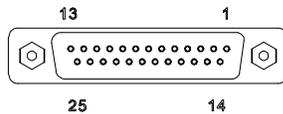

Figure 6-9 Desk and Rack Enclosure DB-25 Serial Connector
The 8530 JN serial port supplies 20 mA current loop (CL) and RS-232 interfaces for both input and output of serial data in either demand or continuous format output. Serial data is formatted as either 7 data bits, 1 parity bit and 1 stop bit or as 8 data bits, no parity bit and 1 stop bit. A selectable checksum character ensures integrity of the data transmission. Refer to Tables 6-4, 6-5 and 6-6 and Figures 6-9 and 6-10 for JN Port interconnect information. Refer to Section 8.2. for a list of available printer interface cables and mating connectors.
Refer to Tables 6-7, 6-8, 6-9 and 6-10 and Figures 6-9 and 6-10 for JW Port interconnect information. Refer to Section 8.2. for a list of available interface cables and mating connectors.